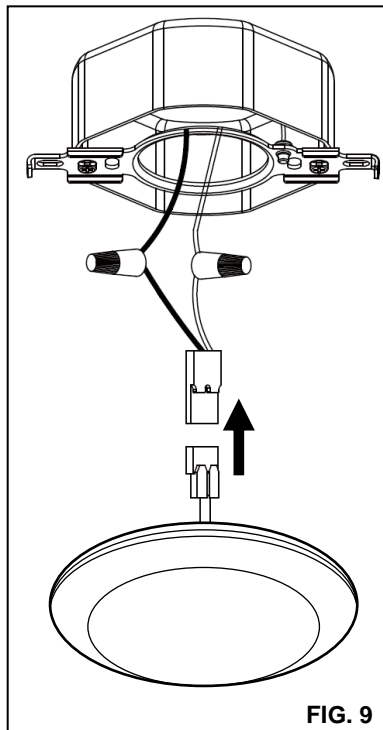

FIG. 9
3. Use wire nuts to connect male end of connector of adaptor with supply wires (black-to-black and white-to-white). **(FIG. 9)**
4. Connect the quick connect from the junction box to the quick connect on the fixture. **(Fig. 9)**